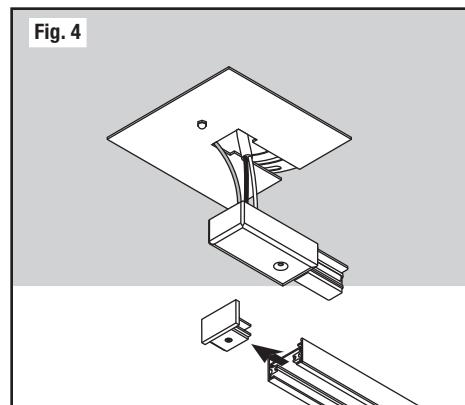

Fig. 4
9. Remove and discard end cap from end of track which will receive the end feed connector. (Fig. 4)
le connecteur d'alimentation. (Fig. 4)